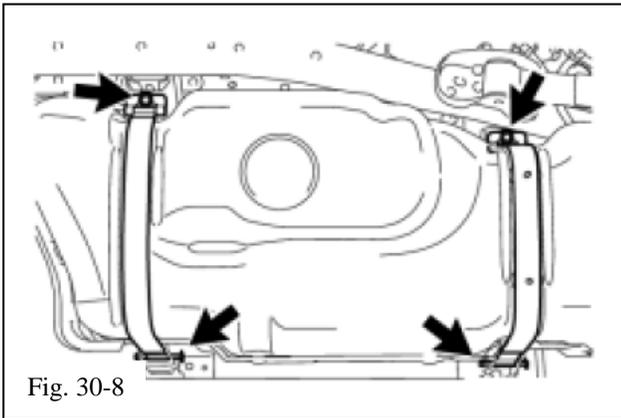

Fig. 30-8
- (l) Remove the 2 bolts, 2 clips, 2 pins and 2 fuel tank bands (Fig. 30-8).